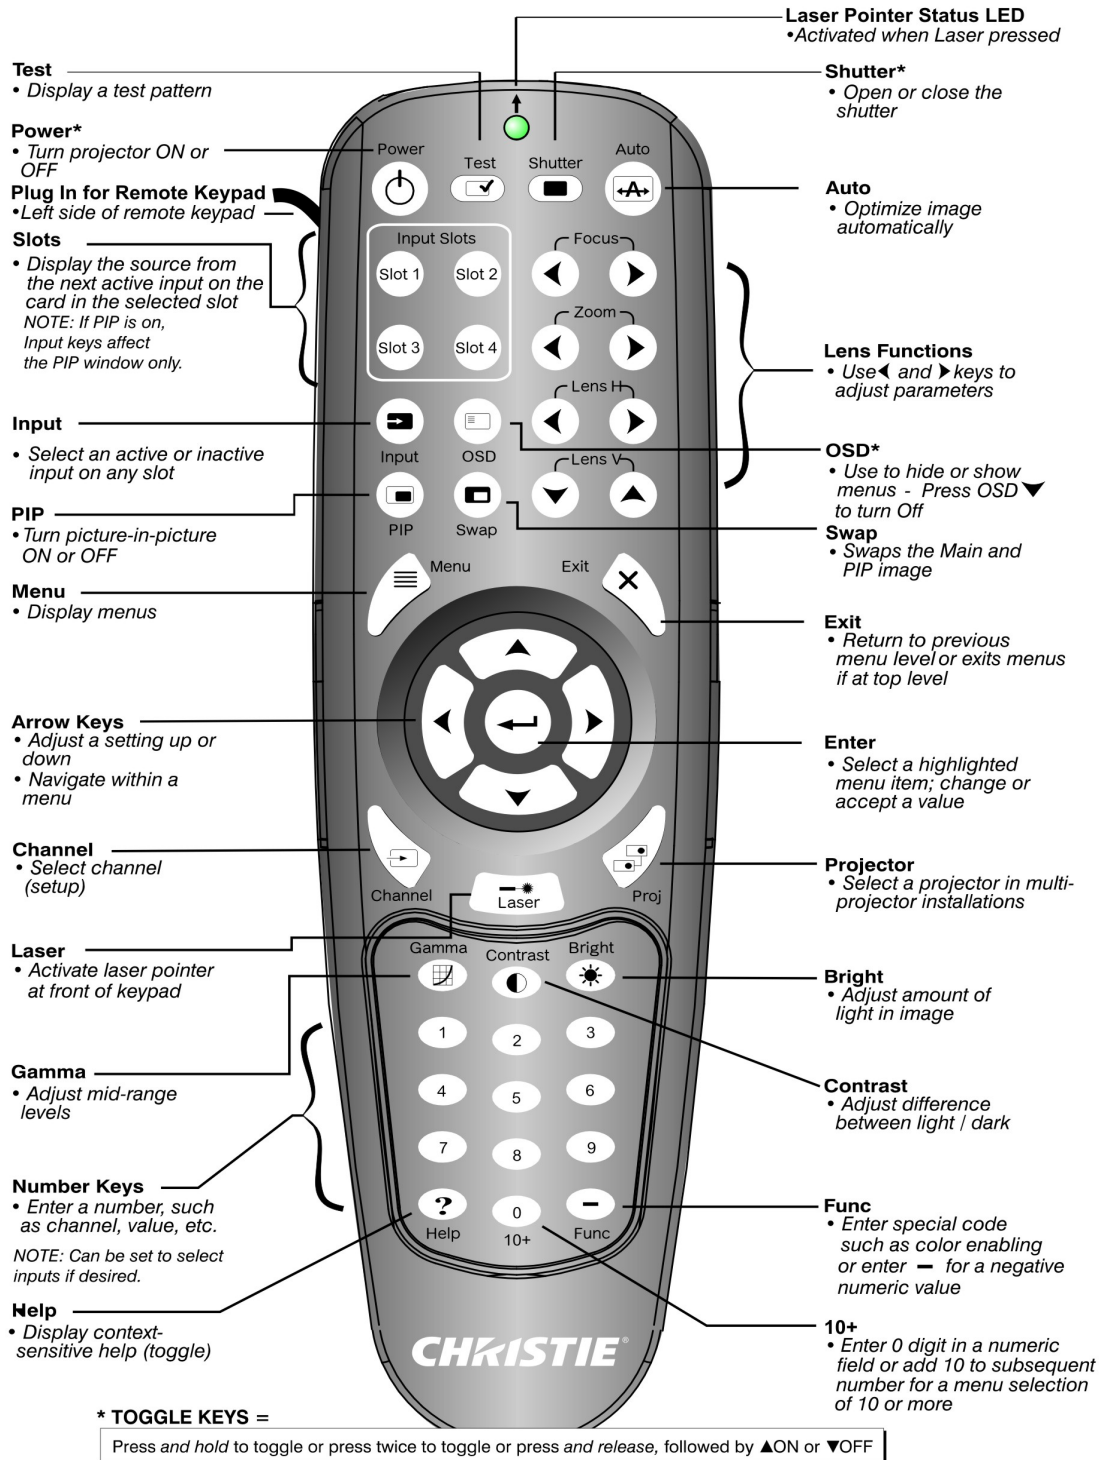

FIGURE 3-1 REMOTE KEYPAD
- **Remote Keypad:** For wired or wireless control up to 25 feet (8 m) away (includes cable for use as a wired remote). The remote keypad controls the projector by way of wireless communications from a battery-powered infrared (IR) transmitter. Use the remote keypad the same way you would use a remote keypad supplied with a TV or VCR. When pressing a function key, direct the keypad toward the projector's front or rear IR sensor. One of the two IR sensors on the projector will detect the signal and relay the commands for internal processing. A laser pointer is built into the remote keypad. See **Figure 3-1 Remote Keypad**.
NOTE: Use **POWER**, **SHUTTER**, and **OSD FUNCTIONS** by doing one of the following: "press-and-hold" (2 seconds) or press twice quickly, followed by pressing either the **UP ARROW KEY** to switch on or the **DOWN ARROW KEY** to switch off once. See **Figure 3-1 Remote Keypad**.
See **Figure 3-1 Remote Keypad** for the description of the keys provided for the remote keypad.
Specific keypad commands are explained in **Figure 3-1 Remote Keypad**.